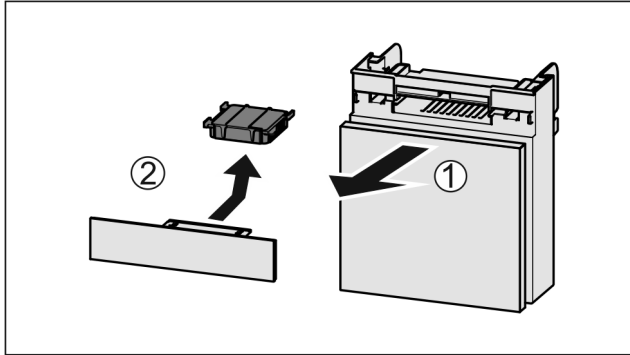

Fig. 178
- ▶ Pull out the compartment Fig. 178 (1).
- ▶ Remove the carbon filter Fig. 178 (2).